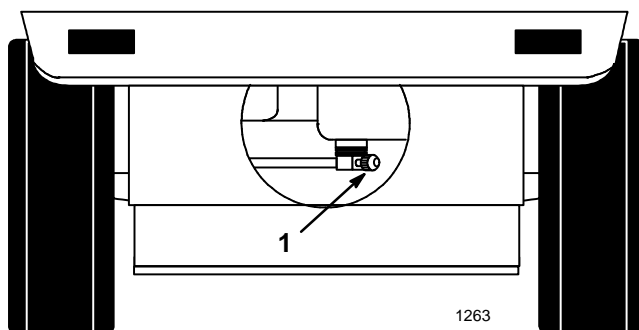

Figure 27
2. Close fuel shut-off valve at fuel tank (Fig. 27).
7. Open fuel shut-off valve at fuel tank (Fig. 27).